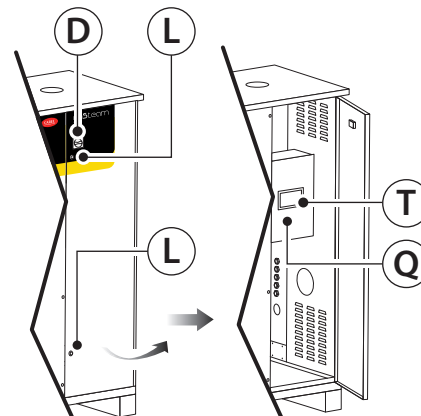

Fig. 4.l
31. Loosen the screw (B - Fig. 4.k) and open the door to access the electrical panel (Q - Fig. 4.k).
1. Turn the disconnect switch (D - Fig. 4.k) OFF to electrically disconnect the unit;